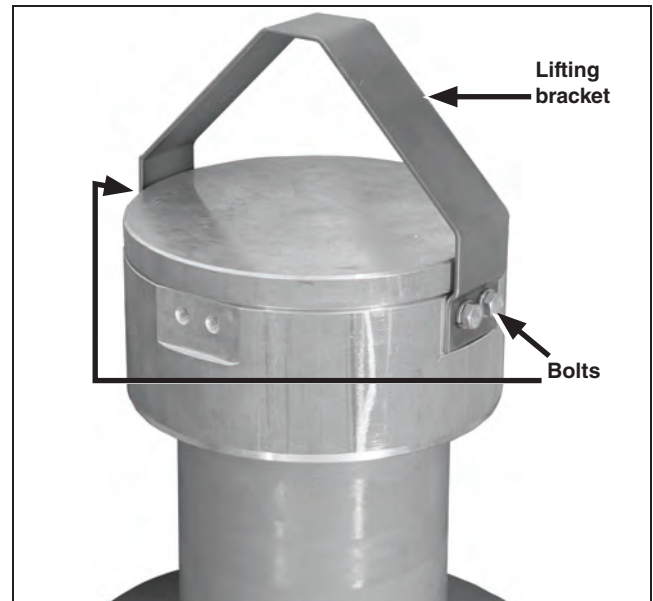

Figure 69. Remove the lifting bracket.
- STEP 1.** Remove the lifting bracket from the interrupter. Make sure all packing material has been removed from the top of the interrupter. See Figure 69.